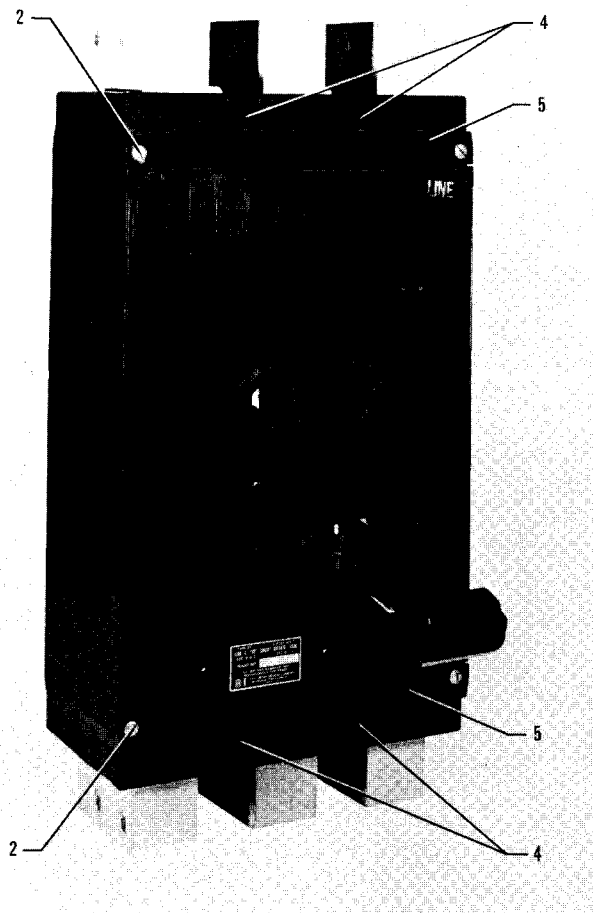

Fig. 1—Front View of Circuit Breaker
KP-frame circuit breakers, as shown in Figures 1 and 2, are for use in individual enclosures, in switchboards, or in power and distribution panelboards.
1. Remove four (4) end cover screws (2, Fig. 1) and end covers (5, Figs. 1 & 2).
3. Release circuit breaker mounting screws (4, Figs. 1 & 2). Circuit breaker is now free of its mounting.